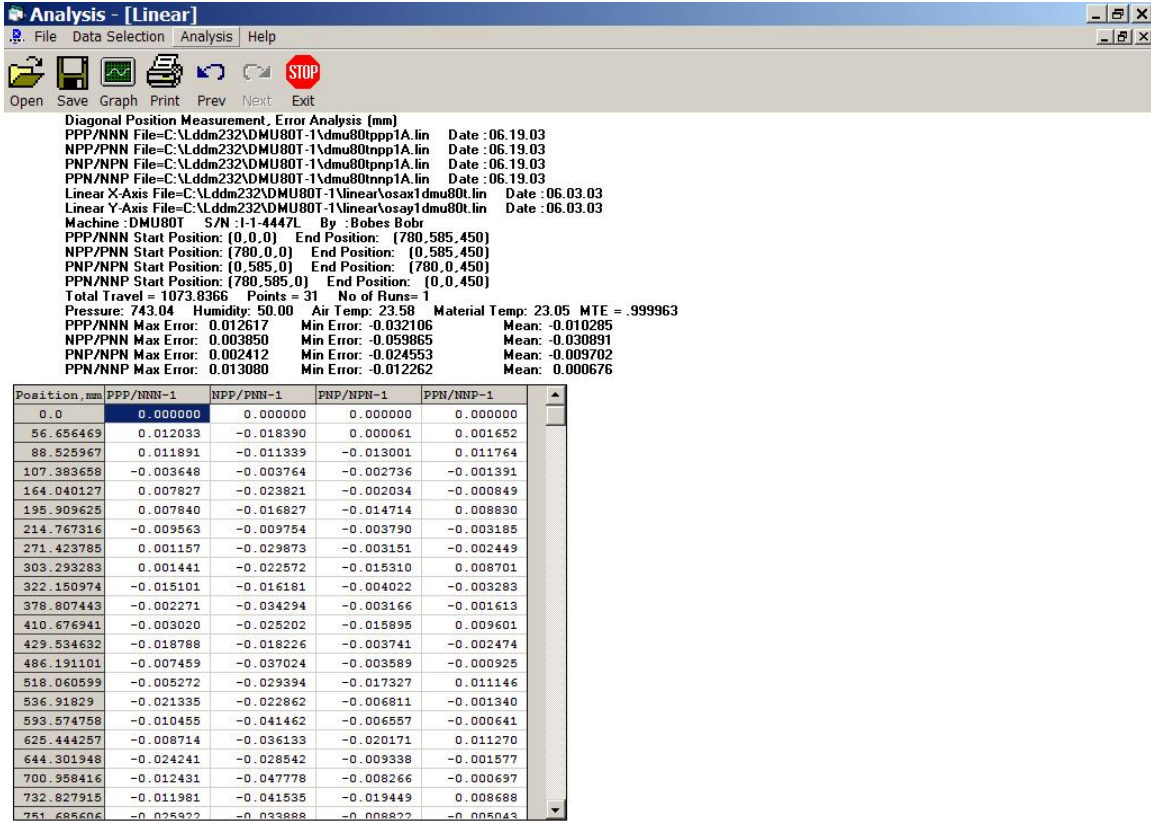

FIG. 9-7 4 SEQUENTIAL DIAGONAL POSITION ERROR TABLE
- 4) Click on **Analysis** then **Error**, the screen will show the 4 diagonal position measurement errors as shown in FIG. 9-7. Click on **Graph** to plot or **Print** to print.